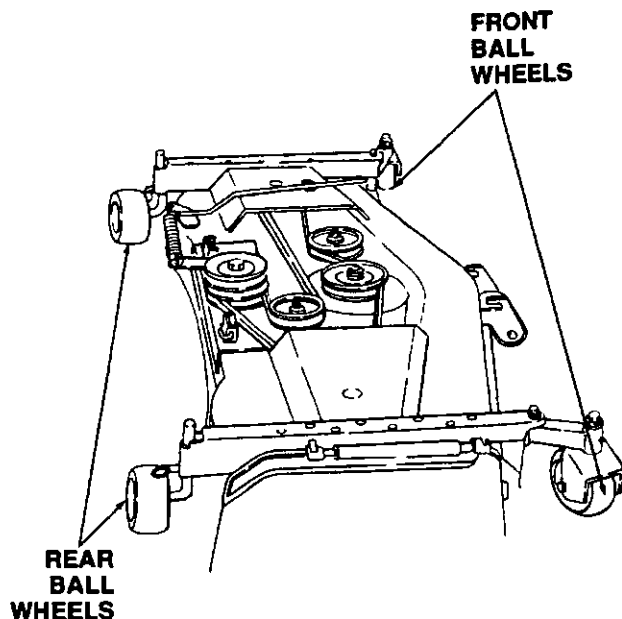

Figure 9
3. In order to facilitate sliding the deck under the tractor, reposition all four ball wheels as shown in Figure 9. Remove quick release pins and rotate right rear ball wheel outward 90 degrees and left rear ball wheel inward 90 degrees. Remove quick release pins and rotate left front castor assembly outward 80 degrees (maximum rotation) and raise right front castor assembly to its uppermost position (but do not rotate). Reinstall three of the quick release pins to secure three of the ball wheels in their uppermost positions so the deck is in the lowest position possible relative to the hard, level surface below. The left front castor assembly cannot be secured with a quick release pin when it is in its rotated position.